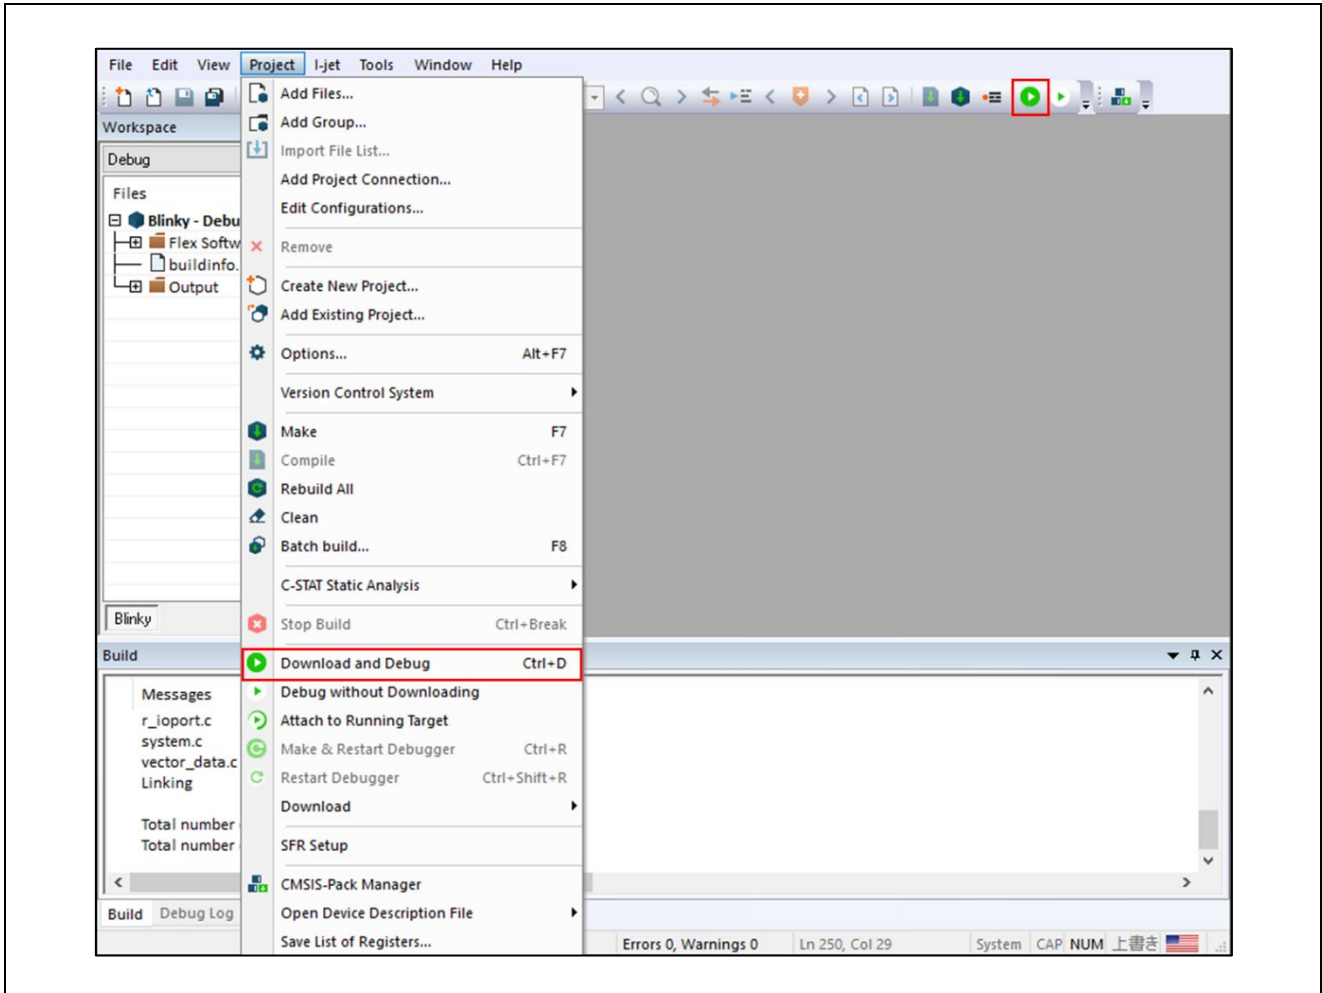

Figure 58 : Download and Debug Button
2. Download of the primary project with procedure 5.3.4 Download & Debug the Project as shown in Figure 58.